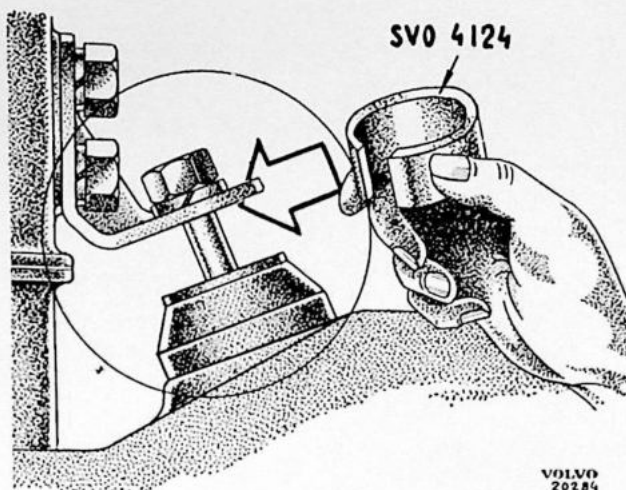

Fig. 36.
6. Push spacers SVO 4124, Fig. 36, on to engine support studs, and lower jack.